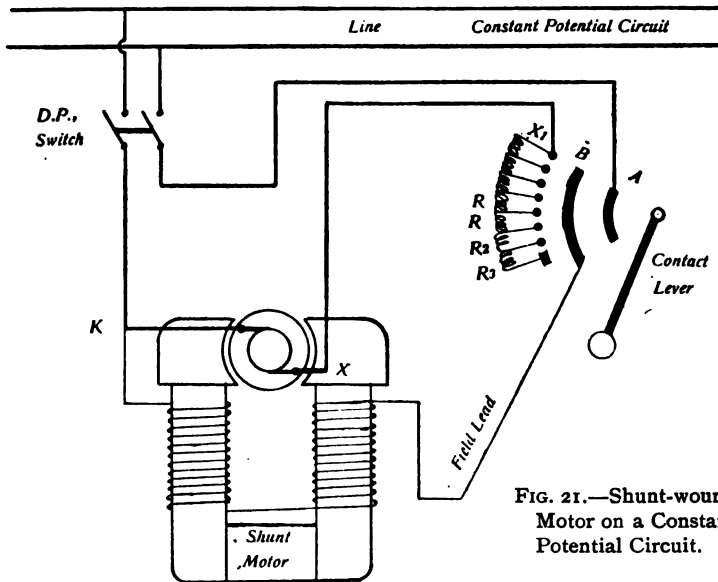

FIG. 21.—Shunt-wound
*Fig. 21* illustrates the above. This is the commonest form of stationary motor, and will run at constant speed on a constant potential circuit. The field magnet coils are wound with the right